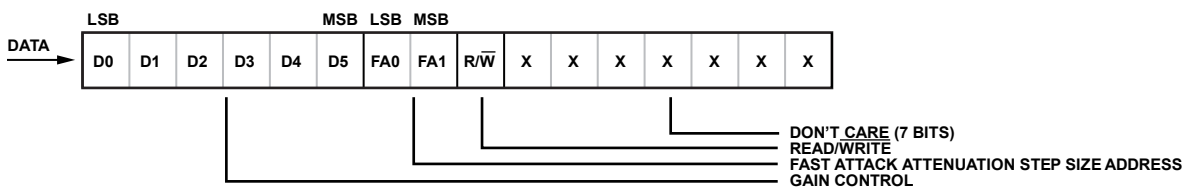

Figure 53. 16-Bit SPI Register
The SPI uses three pins (SDIO, SCLK, and $\overline{\text{CSA}}$ or $\overline{\text{CSB}}$). The SPI data register consists of two bytes: six gain control bits (D0 to D5), two attenuation step size address bits (FA0 and FA1), one read/write bit (R/W), and seven don't care bits (X), as shown in Figure 53.